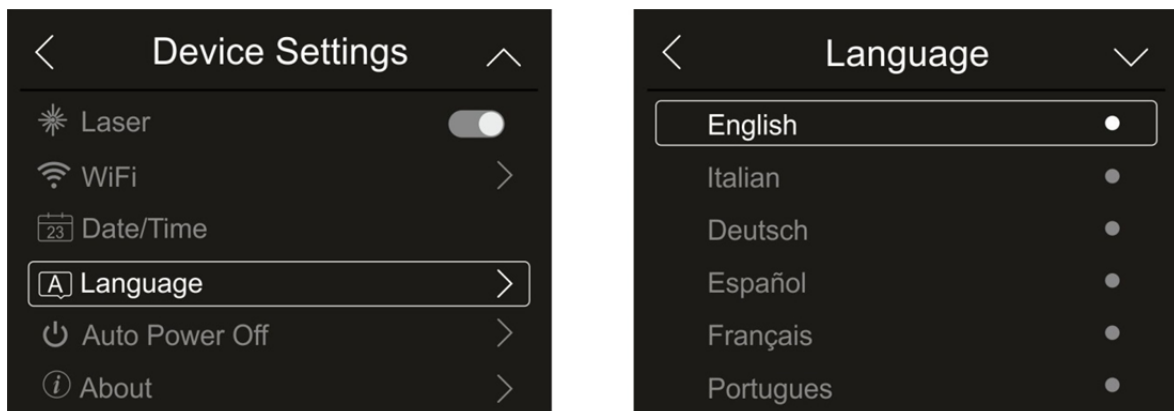

Fig. 19: System language setting
1. Touch the item “Language” to set the system's Language. The screen in Fig. 19 – right side appears on the display: